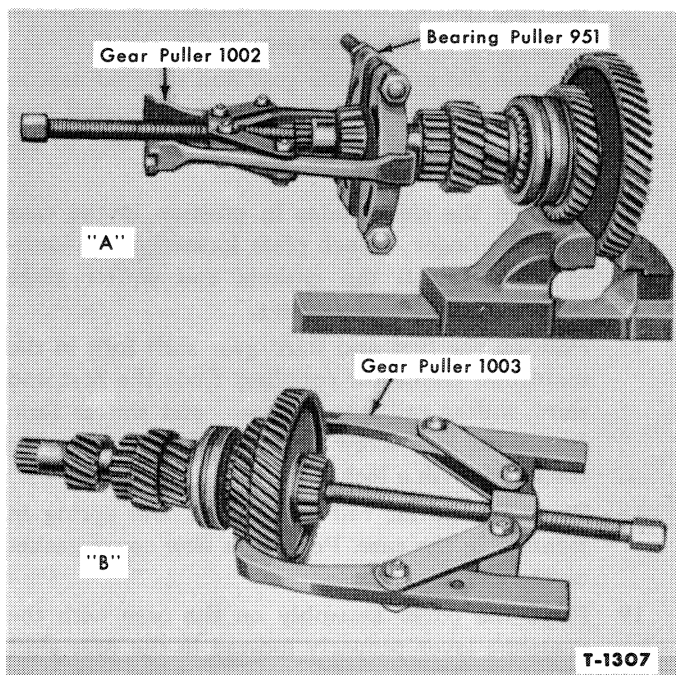

Figure 9—Disassembling Countershaft
- With Bearing Pulling Attachment 951 and Puller 1002, as shown in "A", Figure 9, pull the countershaft rear bearing and oil seal sleeve off the countershaft.
- With Puller 1003, as shown in "B", Figure 9, pull the countershaft drive gear and front bearing off the countershaft.